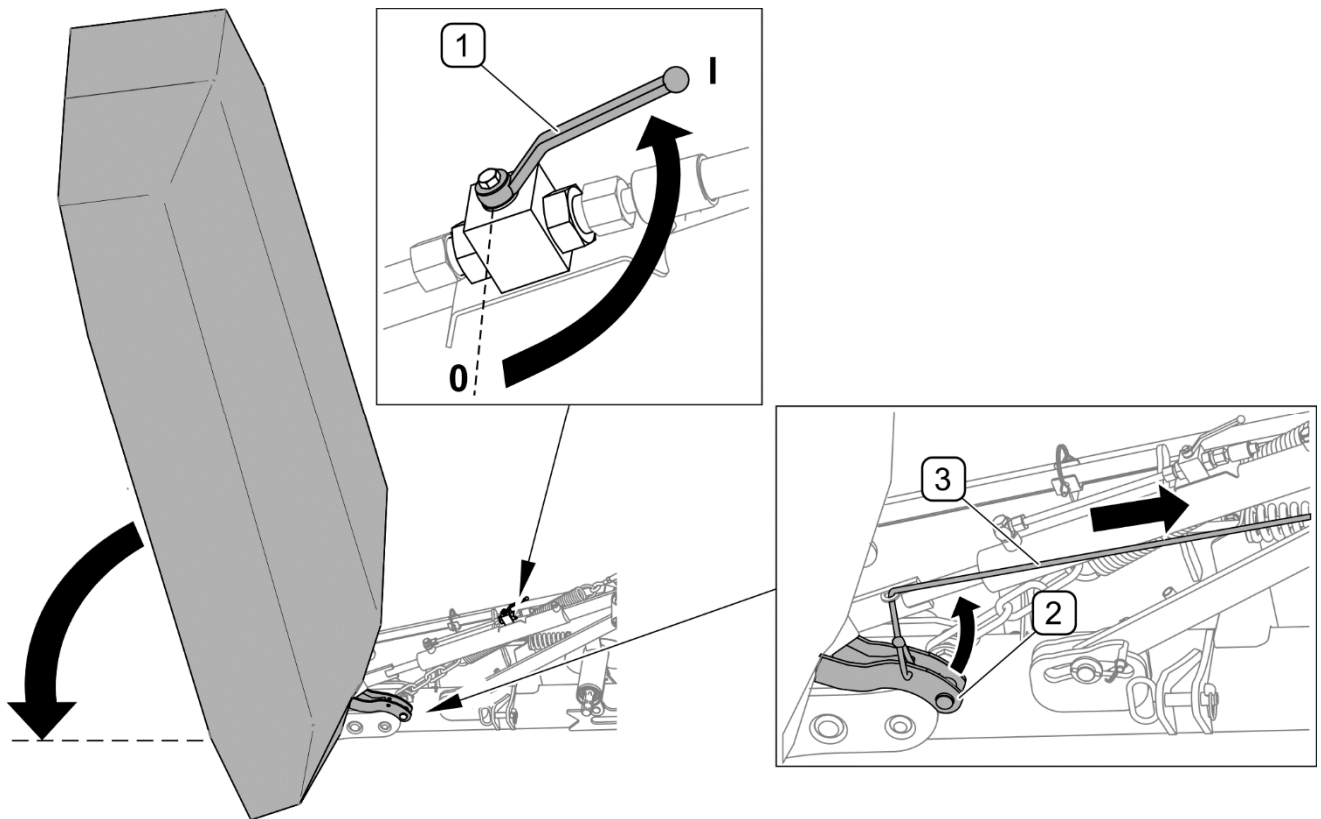

FIGURE 4.8 Setting mower in working position
In order to set mower in working position from transport position (FIGURE 4.8):
- release valve (1) of cylinder (FIGURE 4.8),
- release catch (2) by pulling catch cord (3) and operate hydraulic circuit in tractor to lower lifting arm with cutting unit so that cutter bar rests freely on ground, switching tractor hydraulic circuit to floating position.